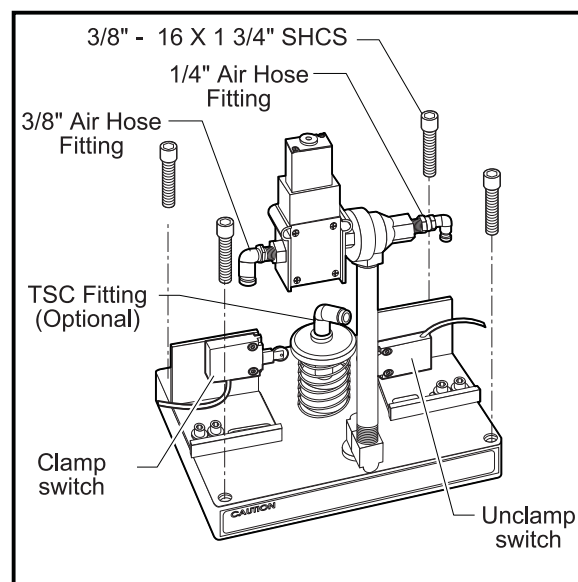

Figure 2-1. Tool Release Piston with Optional TSC fitting.
6. Remove the tool release air hose and precharge hose at the fitting shown in Fig. 2-1. If machine is equipped with TSC, also remove the coolant hose (wrench required).